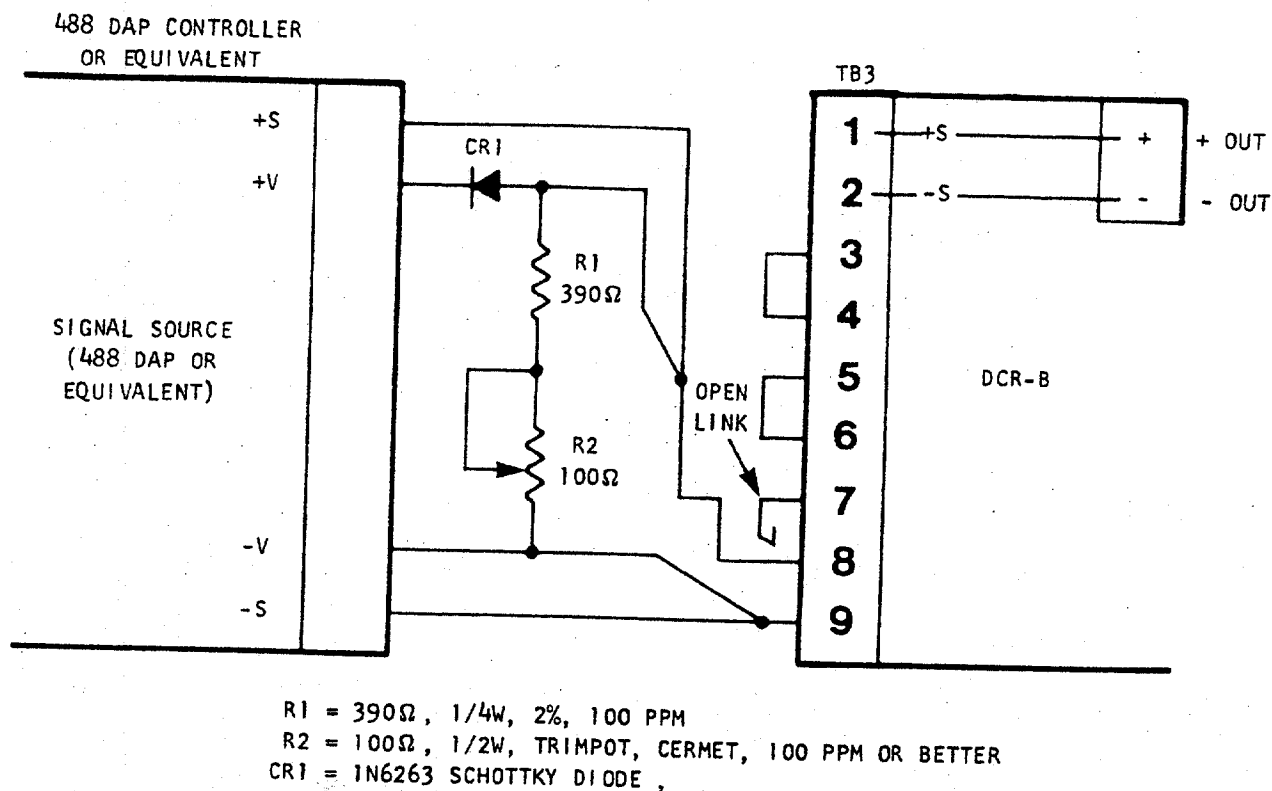

Figure 3-7 DCR-B Interconnections (Current Programming)
Figure 3-7 illustrates unit interconnection for the DCR-B power Supply Series.
9. Set external pot (R2 in Figure 3-7) to obtain 115% of rated DCR-B output current.